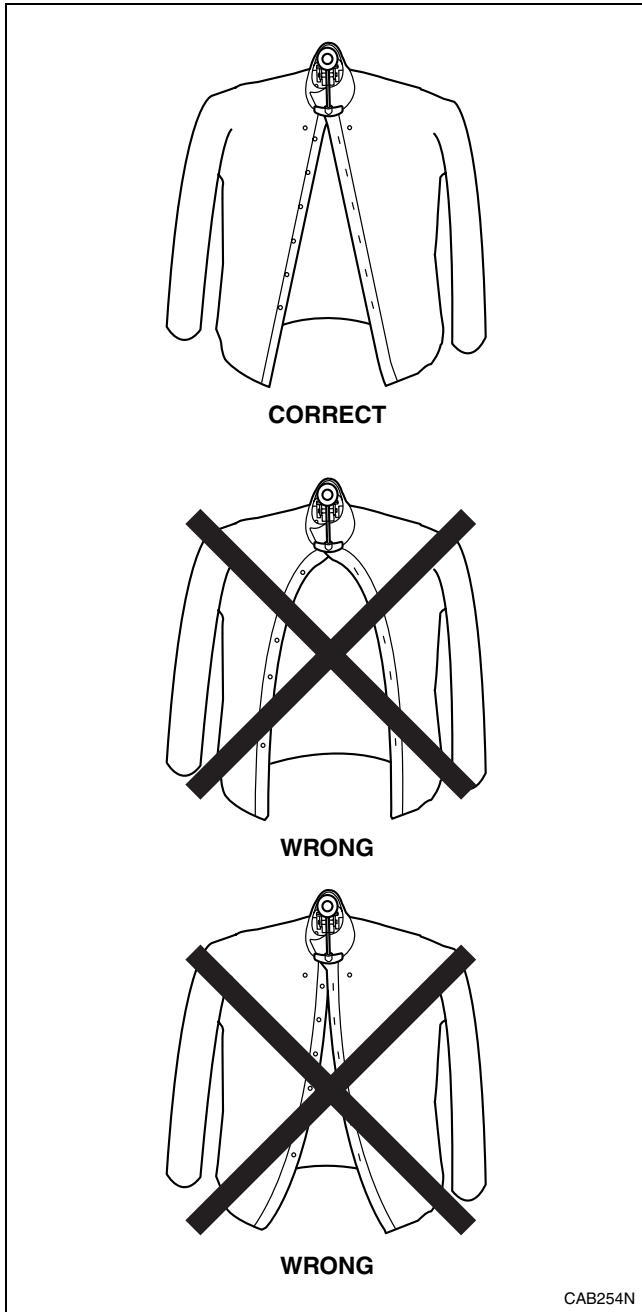

Figure 13
- Notice a natural "A" at shirt's placket. The gap at the bottom is related to shirt size. The larger shirts will have a smaller gap. Refer to *Figure 13*.
- Using the thumb and first finger of both hands, grasp bottom of placket and side seam on right side of shirt. Gently pull downward. Pull placket downward in the direction of the "A." Refer to *Figure 13*.